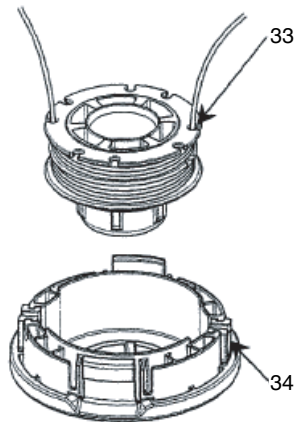

Fig. 40
(5) Insert both loose ends of the line through the cord guide (34) when placing the reel in the case. (Fig. 40)